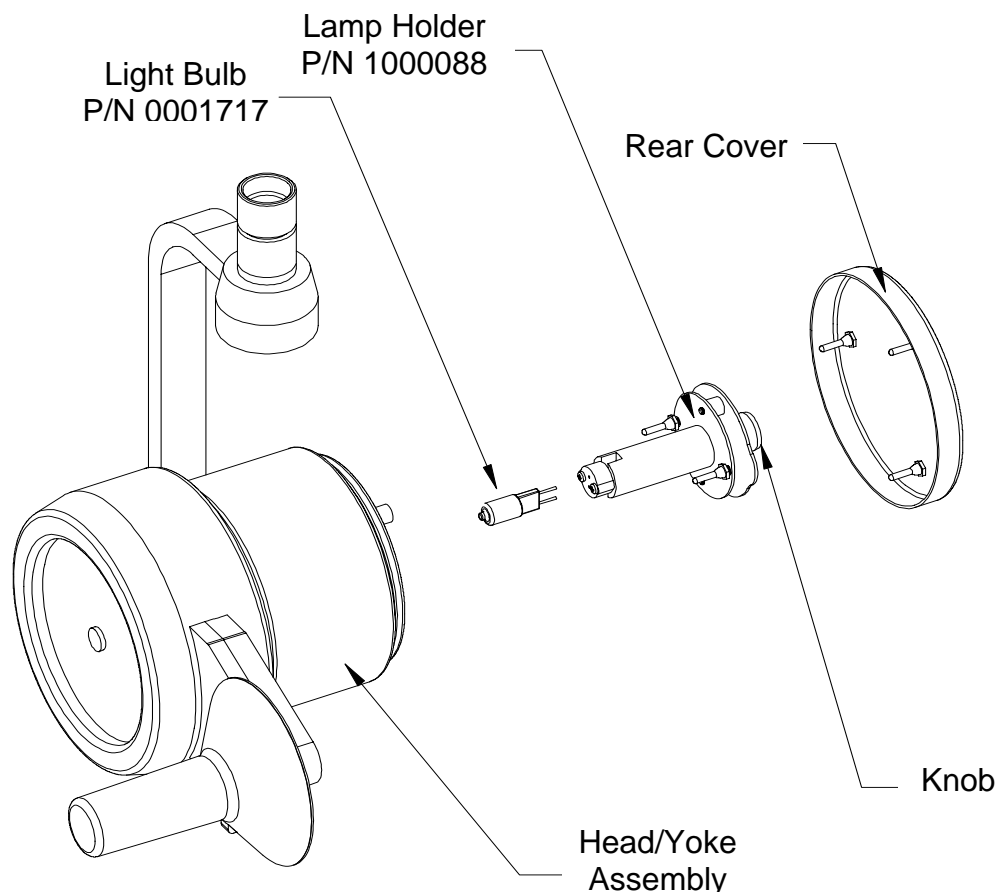

Figure 6: Lamp Replacement
- Pull off the rear cover from the light head as shown in figure 6.